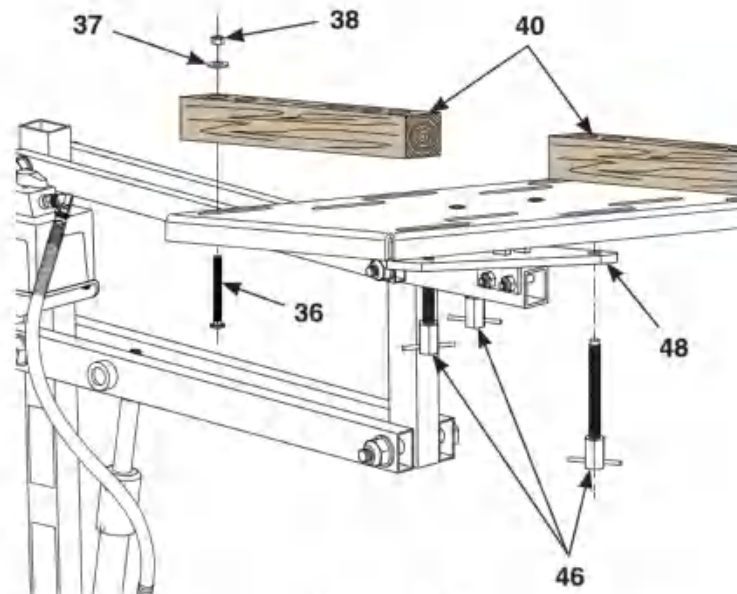

Figure 15
23. Fasten assembly with three adjustment screws (46) from underneath the cradle support adapter (48) to have the tilt table level, and then remove the two rolls of packing material. **See Figure 15.**
24. Install the two wooden blocks (40) to tilt table using four each—carriage bolts (36), washers (37) and nuts (38). **See Figure 15.**